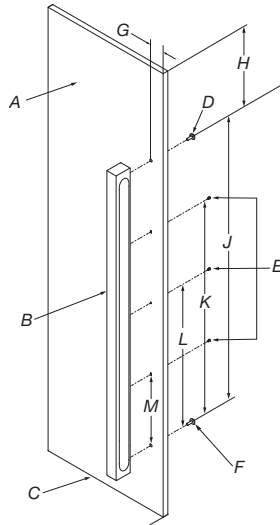

Figure 1 - Refrigerator/freezer door
- For hole locations and the spacing requirements of NOIR™ handle mounting, refer Figure 1.
NOTE: Figure 1 represents a Side by Side (left) freezer panel, a French door (left) refrigerator panel, a bottom mount left swing refrigerator panel, and column refrigerator/freezer panel. Mirror the hole pattern on the opposite door panel as required.
1. Mark the hole locations as shown in Figure 1.